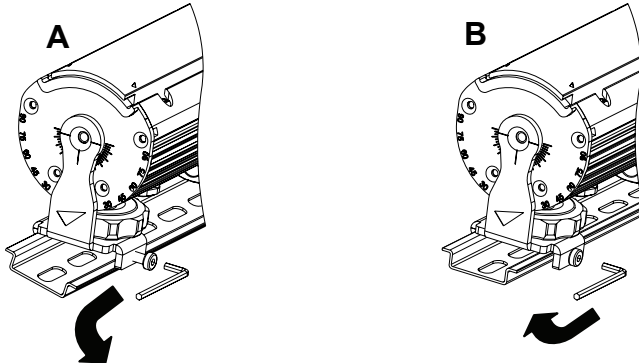

Figure 2: Mounting on DIN rail
2. See Figure 2. The fixture mounting bracket has a hooked profile on one side (see **A**). Hook this profile over the top of the DIN rail and swing the bracket down. Use a 2.5 mm Allen key to tighten the mounting clamp screw (see **B**).